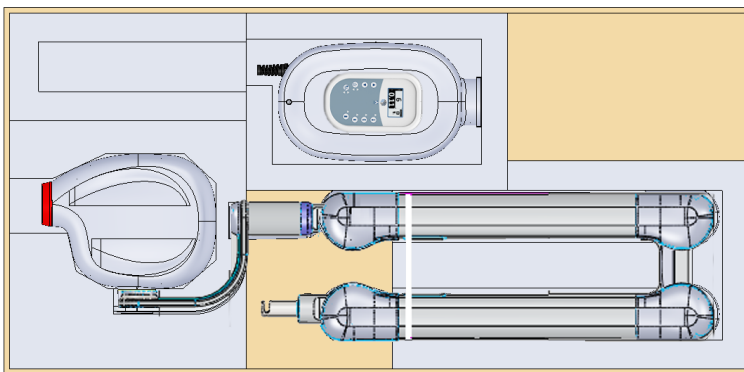

Figure 5
- Open the smaller packing box. Lift the scissor-arm and bring it near the base stand as shown in Figure 5.